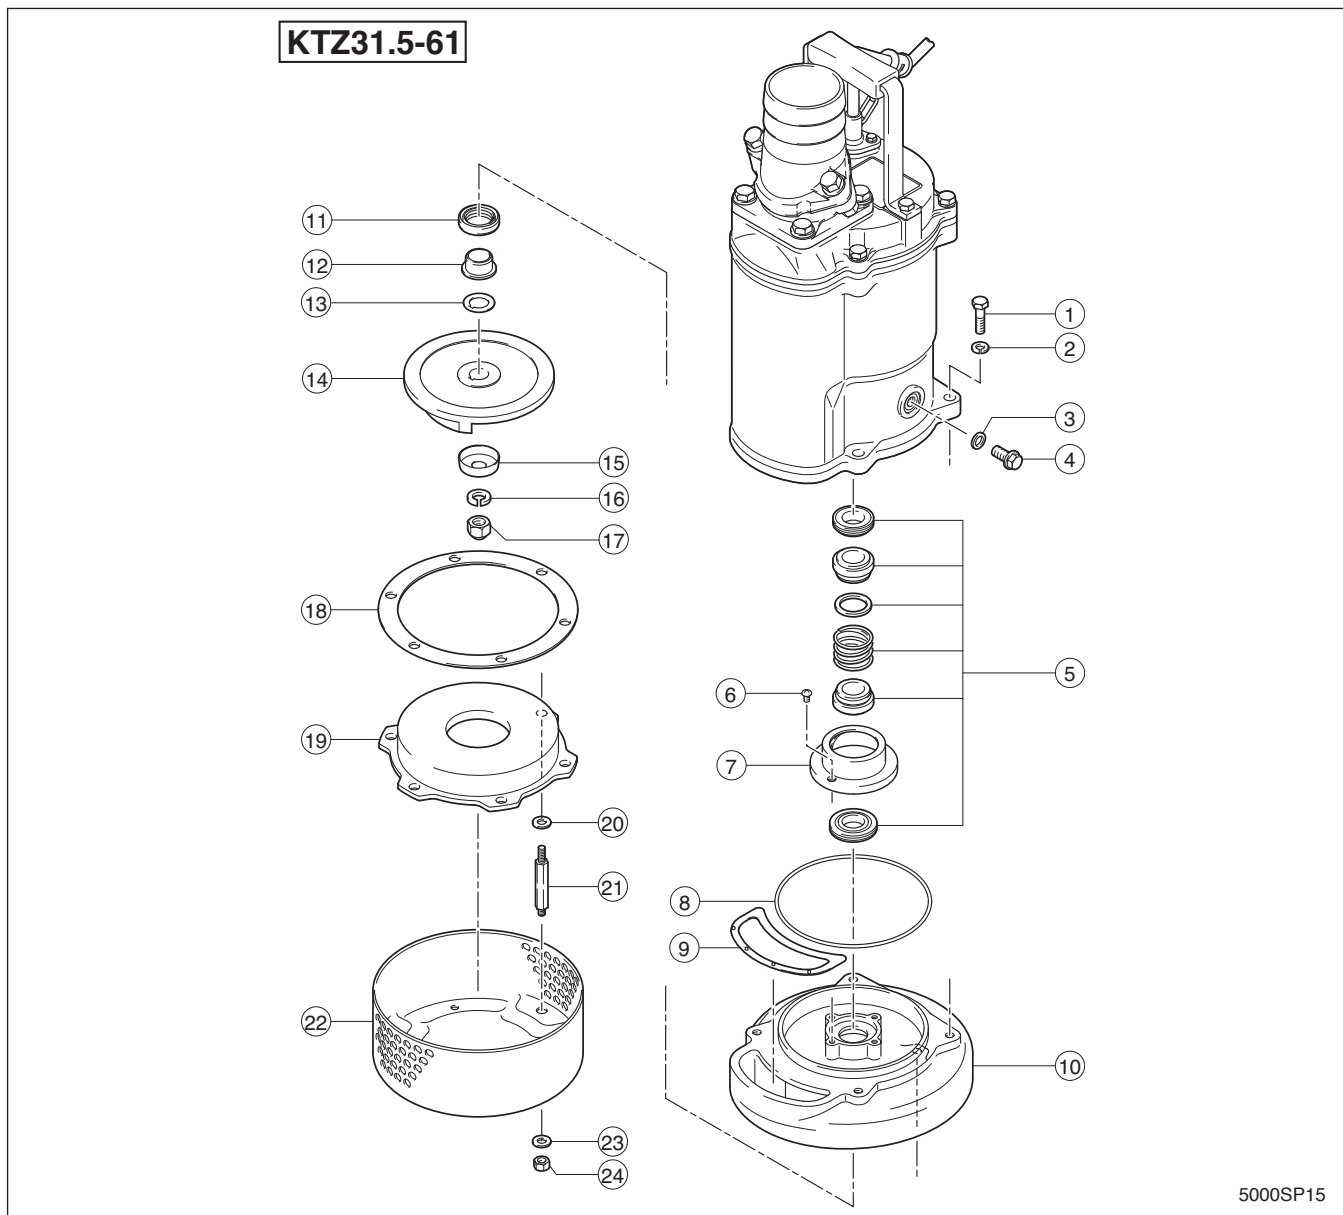

FIGURE 1.14 EXPLODED VIEW
The breakdown of pump shown in Figure 1.14 is based on the construction of 2 HP model KTZ21.5-61 / KTZ31.5-61. However, 3 HP, 5 HP and 7.5 HP KTZ three-phase models have the same construction as KTZ21.5-61 and KTZ31.5-61, except that the sleeve (12) will not be applied to the 5 HP and 7.5 HP models.
1. Removing the strainer (22)